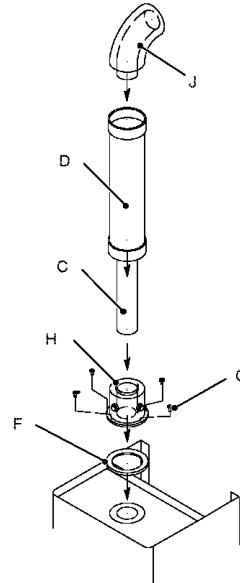

Figure 7
- Install the flange gasket (F) onto the boiler outlet as shown in Figure 7.
- Attach the boiler collar (H) to the outlet of the boiler using the 4 screws (G).
- Insert the vertical exhaust pipe (C) into the boiler collar. (Be careful not to damage the red exhaust gasket)
- Slide the air intake pipe (D) onto the boiler collar so that the intake gasket (E) fits over the intake collar (H).
- Install the elbow (J) onto the vertical rise pipe.